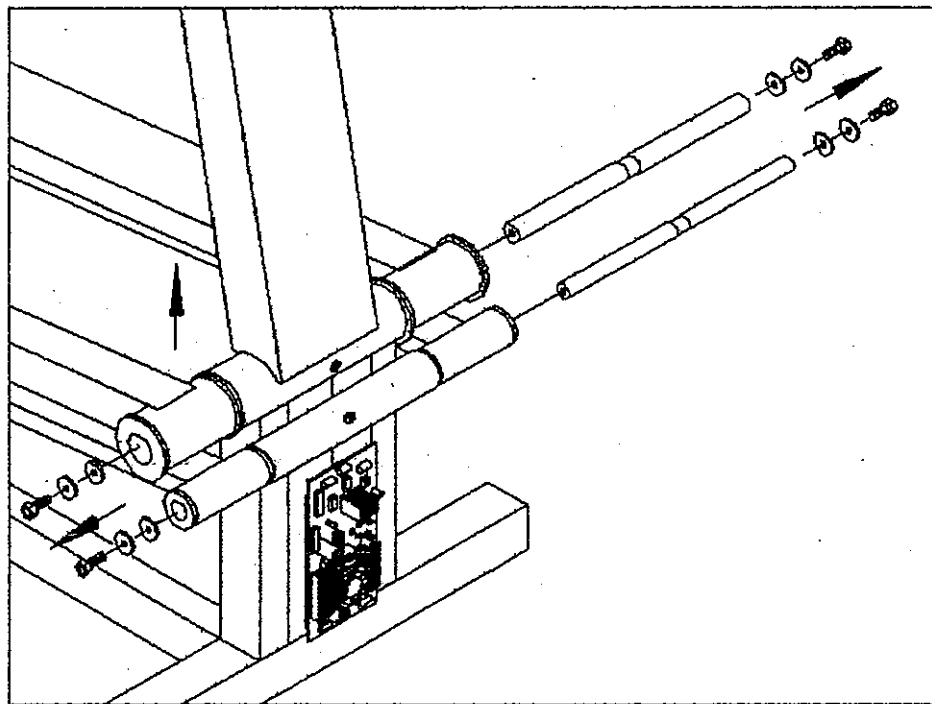

Fig. 11
10. Unscrew the 4 screws and 8 washers securing the two shafts inside the stair arms, then remove both shafts (see Fig. 11).